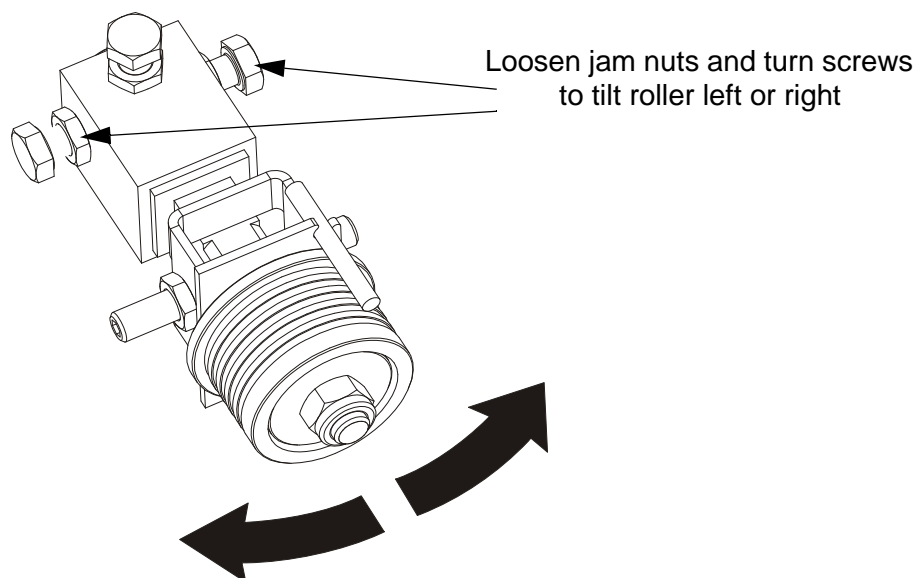

FIG. 5-29
**See Figure 5-29.** Loosen the jam nuts on the left and right horizontal tilt adjustment screws. To tilt the roller left, loosen the right screw and tighten the left screw. To tilt the roller right, loosen the left screw and tighten the right screw. Tighten the jam nuts and